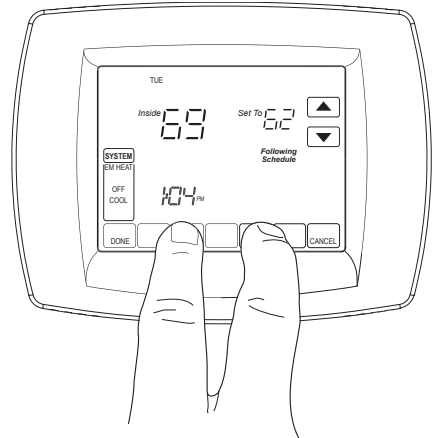

Fig. 7. Entering Installer Setup
3. Press and hold the two blank keys on either side of the center key for approximately five seconds until screen changes. See Figure 7.